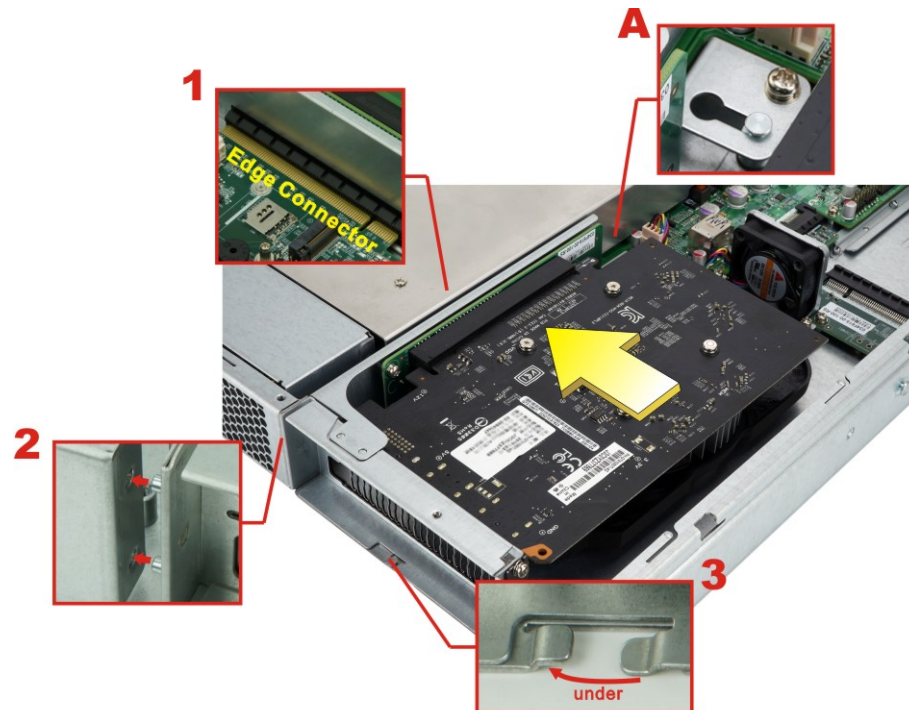

Figure 3-10: Expansion Slot Module Installation
Step 6: Place the expansion slot module back to the original position by hooking the slotted hole into the positioning stud in the chassis (**Figure 3-10 A**). Push the connector of the expansion slot module into the edge connector to install it.